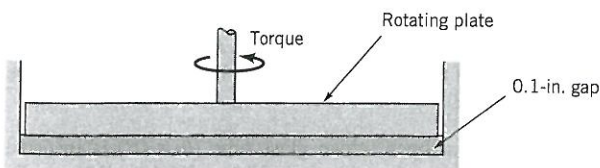

Figure P1.89
1.89 A 12-in.-diameter circular plate is placed over a fixed bottom plate with a 0.1-in. gap between the two plates filled with glycerin as shown in Fig. P1.89. Determine the torque required to rotate the circular plate slowly at 2 rpm. Assume that the velocity distribution in the gap is linear and that the shear stress on the edge of the rotating plate is negligible.